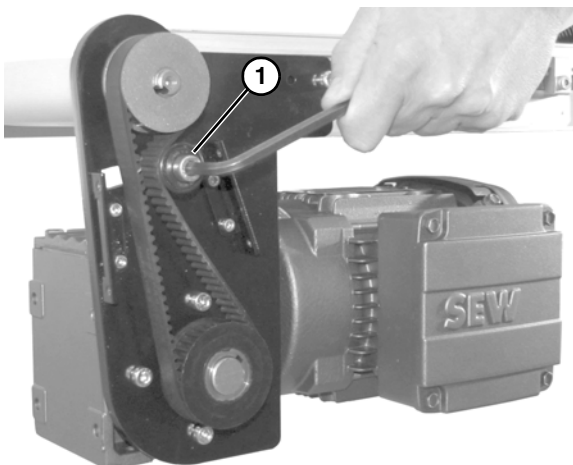

Figure 10
7. Remove cam bearing and spacer (**Figure 10, item 1**).